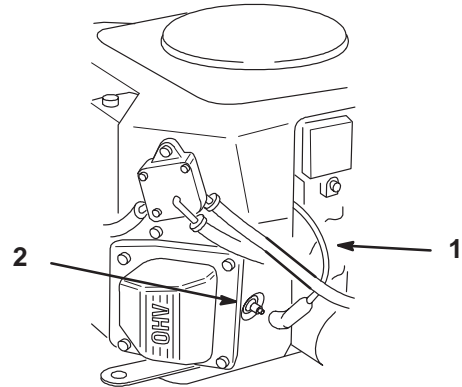

Figure 38
2. Pull the wire(s) off of the spark plug(s) (Fig. 38). Clean around the spark plug(s) to prevent dirt from falling into the engine and potentially causing damage.
3. Push the wire(s) onto the spark plug(s) (Fig. 38).